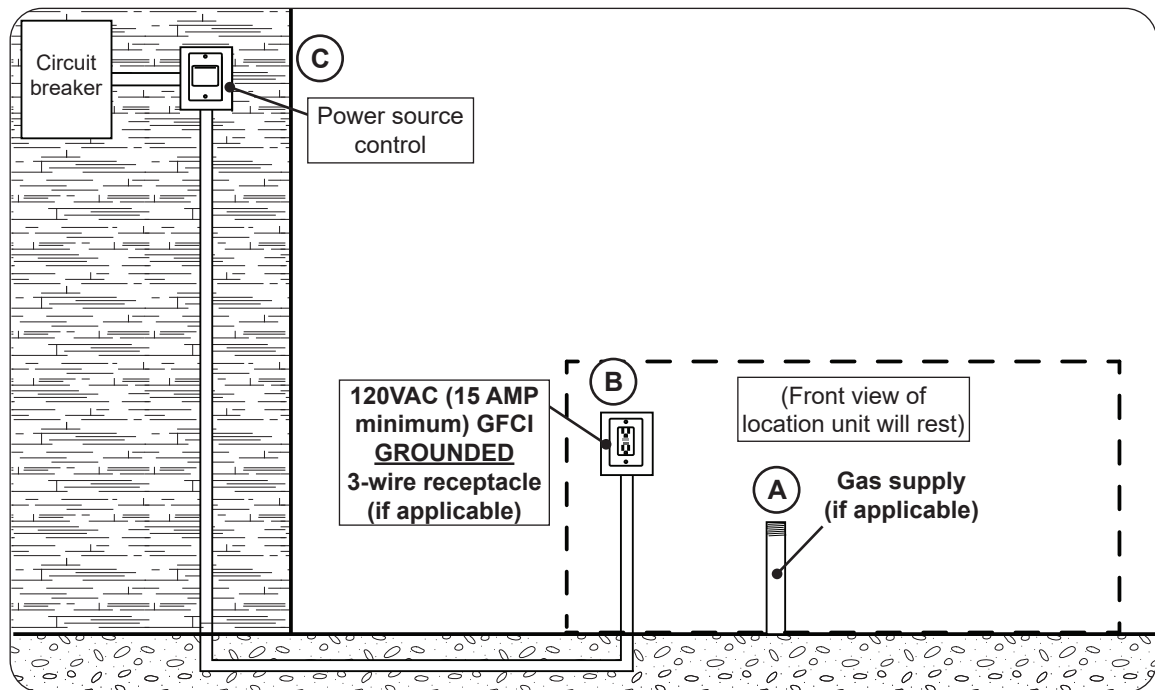

Fig. 25-1 Route gas and electrical (as applicable)
Your individual installation may vary. **Observe the National Fuel Gas Code (NFPA 54), the National Electric Code, and all local codes.** See Fig. 25-1 below for an example layout of electrical and gas supply.
1. Ensure the gas supply is properly routed into the area that the unit will rest over (see Fig. 25-1, A).
- A **120VAC (15 AMP minimum) GFCI GROUNDED 3-wire receptacle** (not included) is required within the vicinity of the fire unit to provide power to the unit. See Fig 25-1, B. The GFCI receptacle must be a WEATHER-PROOF IN-USE COVERED RECEPTACLE. The unit's power supply cord is located on the rear of the valve box.
1. Wire the dedicated power source control (Fig 25-1, C) to the receptacle that will be permanently installed in the location where the unit will be positioned (Fig 25-1, B).